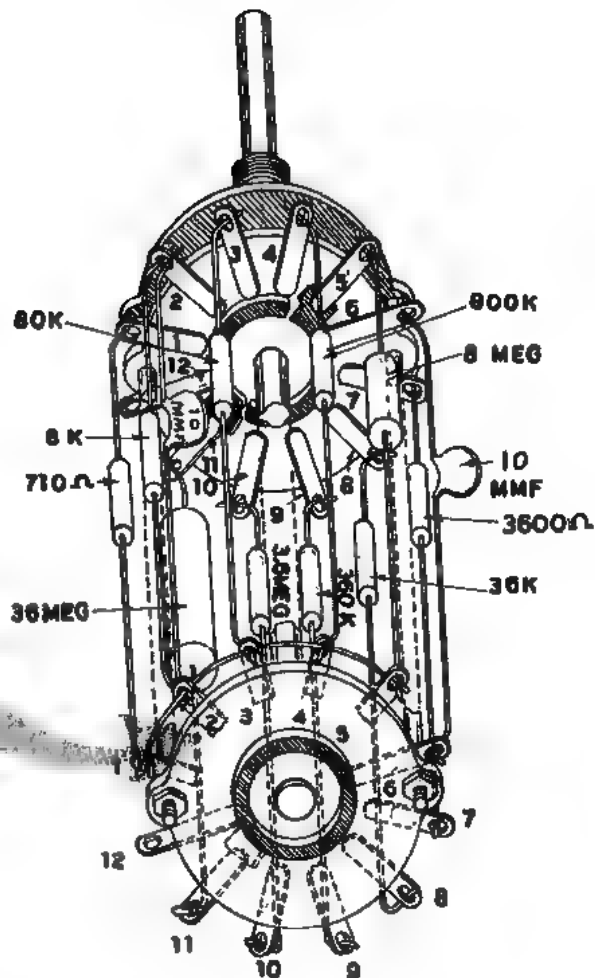

Figure 2
- ( ) Observe the two deck ceramic switch carefully. Note the position of decks "A" and "B" and the numbering system for their terminals. See Figure 2.
- [ ] Using bare wire, connect the five dummy (not connected to the rotor) lugs, B1, B2, B3, B4 and B5 together (NS).
- ( ) Connect the  $8K \pm 1\%$  resistor between A2 (NS) and B2 (NS).
- ( ) Connect the  $8\ \text{megohm} \pm 1\%$  resistor between A5 (S-1) and B5 (NS).